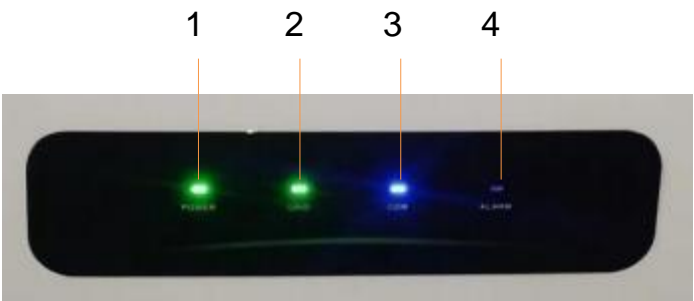

figure 2
Step 4: Confirm the indicator light status of the inverter. The indicator light status in Figure 2 is normal.